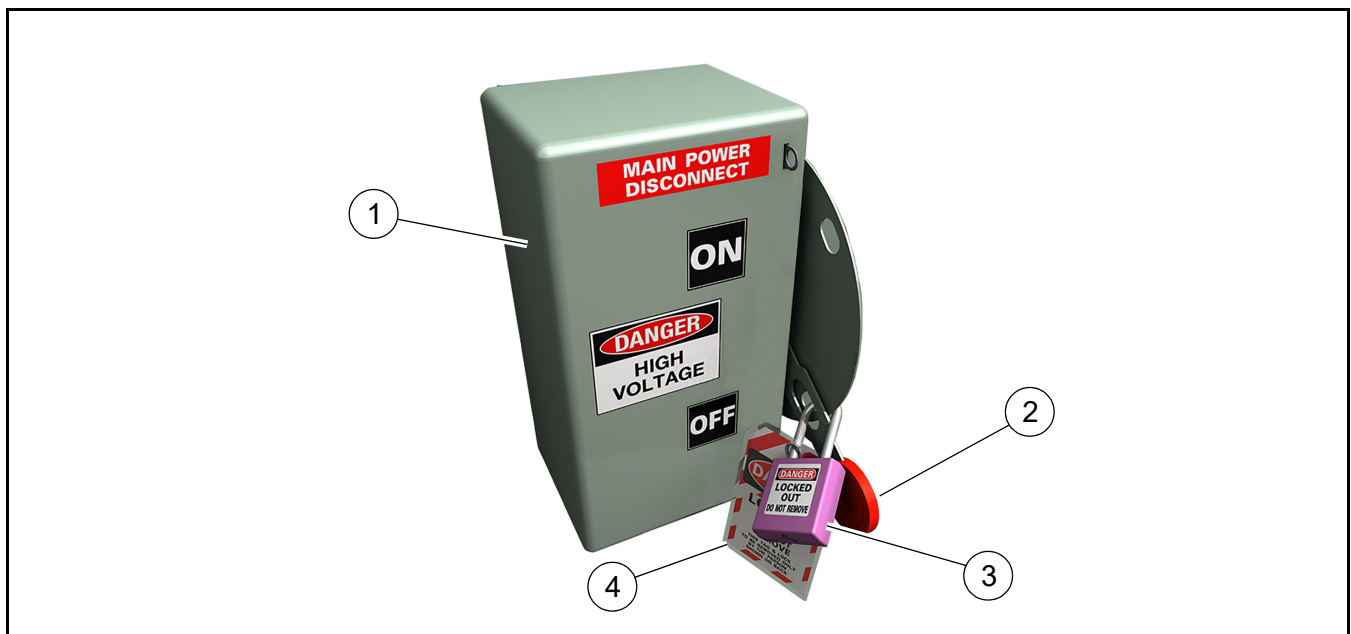

Figure 3
- Identify the Main Power Disconnect (**Figure 3, 1**) for the energy source.
- Switch the lever (**Figure 3, 2**) to the OFF position to shut off the electrical power supply to the Power Pack.
- Apply LOCKOUT/TAGOUT by affixing lock (**Figure 3, 3**) and tag (**Figure 3, 4**) to secure the lever in the OFF position.
- Remove the LOCKOUT/TAGOUT lock (**Figure 3, 3**) and tag (**Figure 3, 4**) that secured the lever on the Main Power Disconnect.
- Switch the lever (**Figure 3, 2**) to the ON position to enable the electrical power supply to the Power Pack.